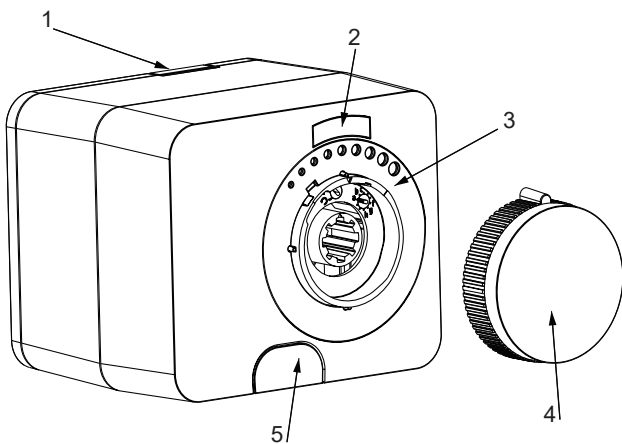

Figure C-4: Motorised actuator
Refer to Figure C-4 & Table C-1 for key features.
- Ensure the clutch of the motorised actuator is disengaged allowing for free movement with the rotary handle. To disengage, press down on the Actuator clutch control button down until it locks. Refer to Figure C-4 and Table C-1.